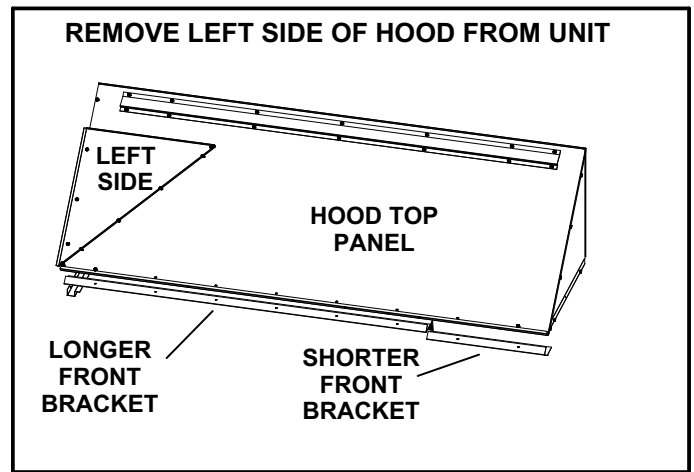

FIGURE 13
- 8- Install longer front filter bracket on hood top as shown in figures 13 and 14. Insert four filters.